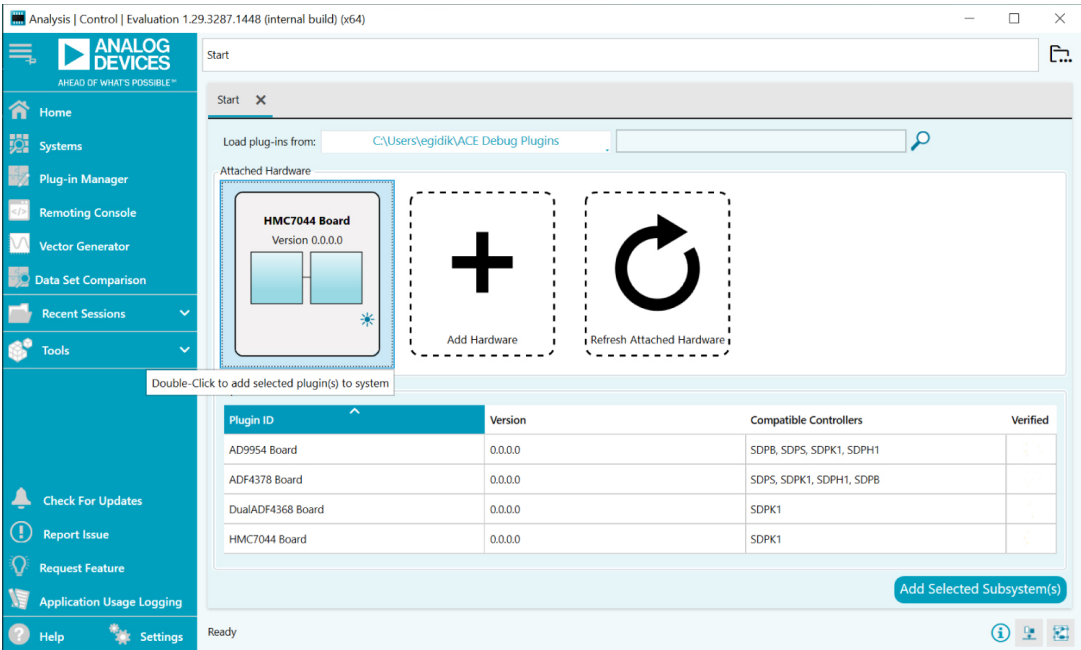

Figure 3. ACE Start Page, Attached Hardware (HMC7044B Evaluation Board)
- 1. Launch the ACE application. With the SDP-K1 board connected to the EK1HMC7044BLP10B, the attached hardware appears in the graphical user interface (GUI) as shown in Figure 3.